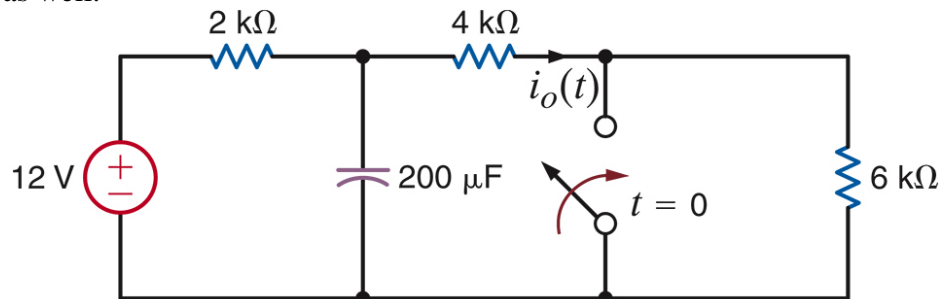

Figure 11: Circuit for Exercise 1
1) The switch in Figure 11 has been opened for a long time and is closed at $t = 0$. Calculate $i_o(t)$ for $t > 0$. Plot $i_o(t)$ versus time using MATLAB and include the plot in your report. Now simulate this circuit using MultiSim and plot $i_o(t)$ versus time. Include this plot in your report as well.